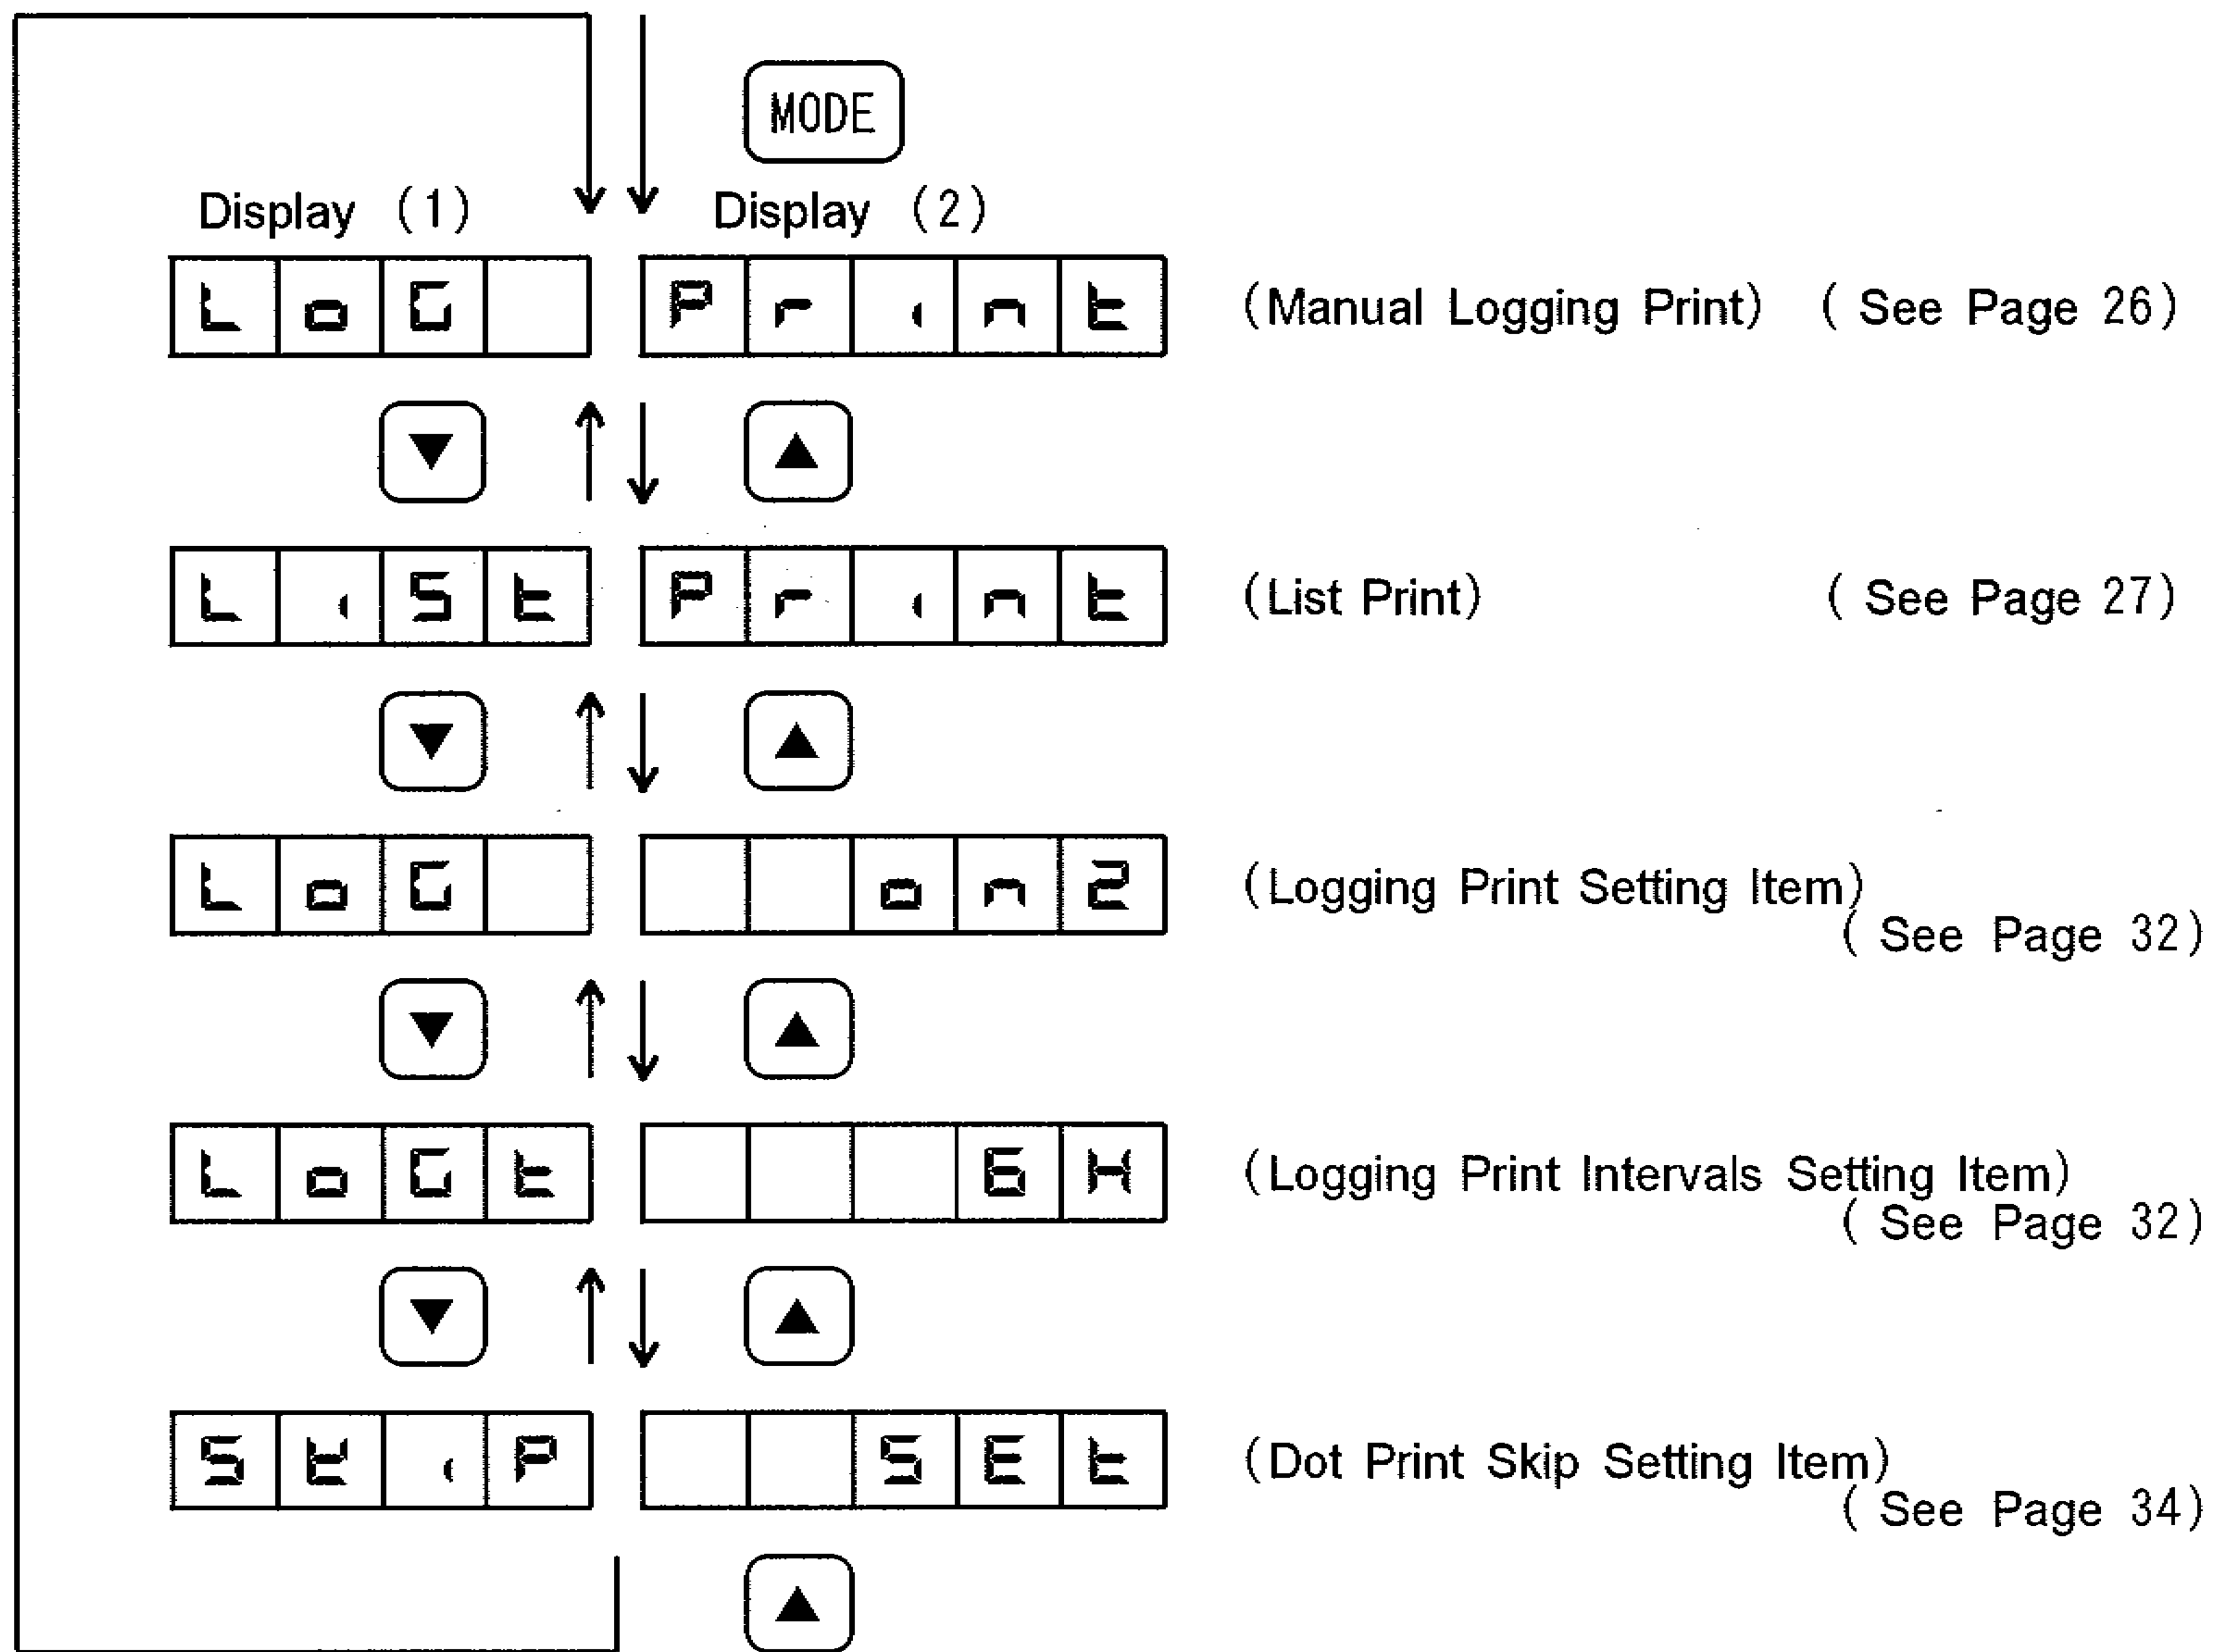

Fig. 6.8 PRINT Mode Display Screen
- ① Press **MODE** key to turn on the " □ PRINT " mode indicator lamp.
- ② The display screen is as following Fig. 6.8.